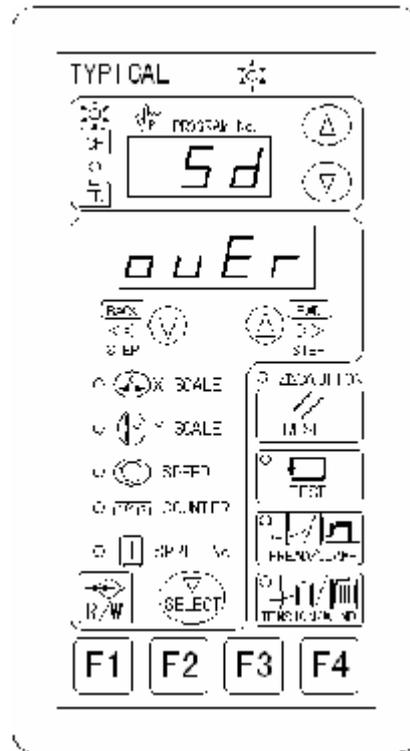

Fig. 6-23
3. When reading of the pattern in SD card is completed, operation panel is as shown in Fig. 6-23, with OVER displayed on menu display still under flashing state.